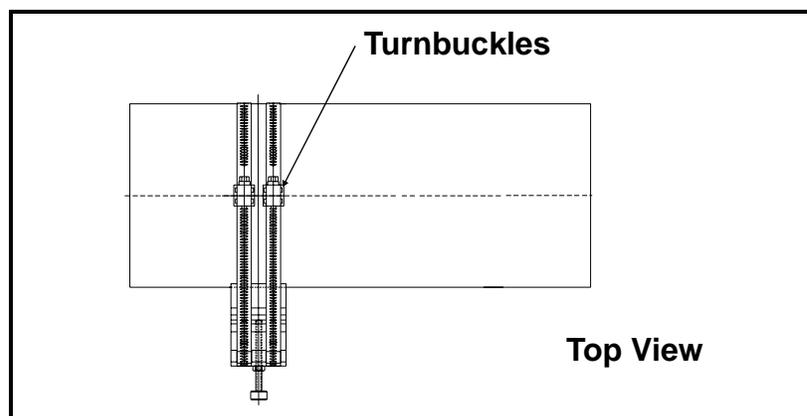

Figure 19: Positioning Turnbuckles
8. Center one of the blocks over one of the crossmarks on the pipe. Align the block so that the pressure bolt is over the center of the crossmark. Secure the block by wrapping two straps around the block and pipe and tightening them. Make sure the turnbuckles are at least 1/2 pipe diameter away from the block, as shown in Figure 19 below.